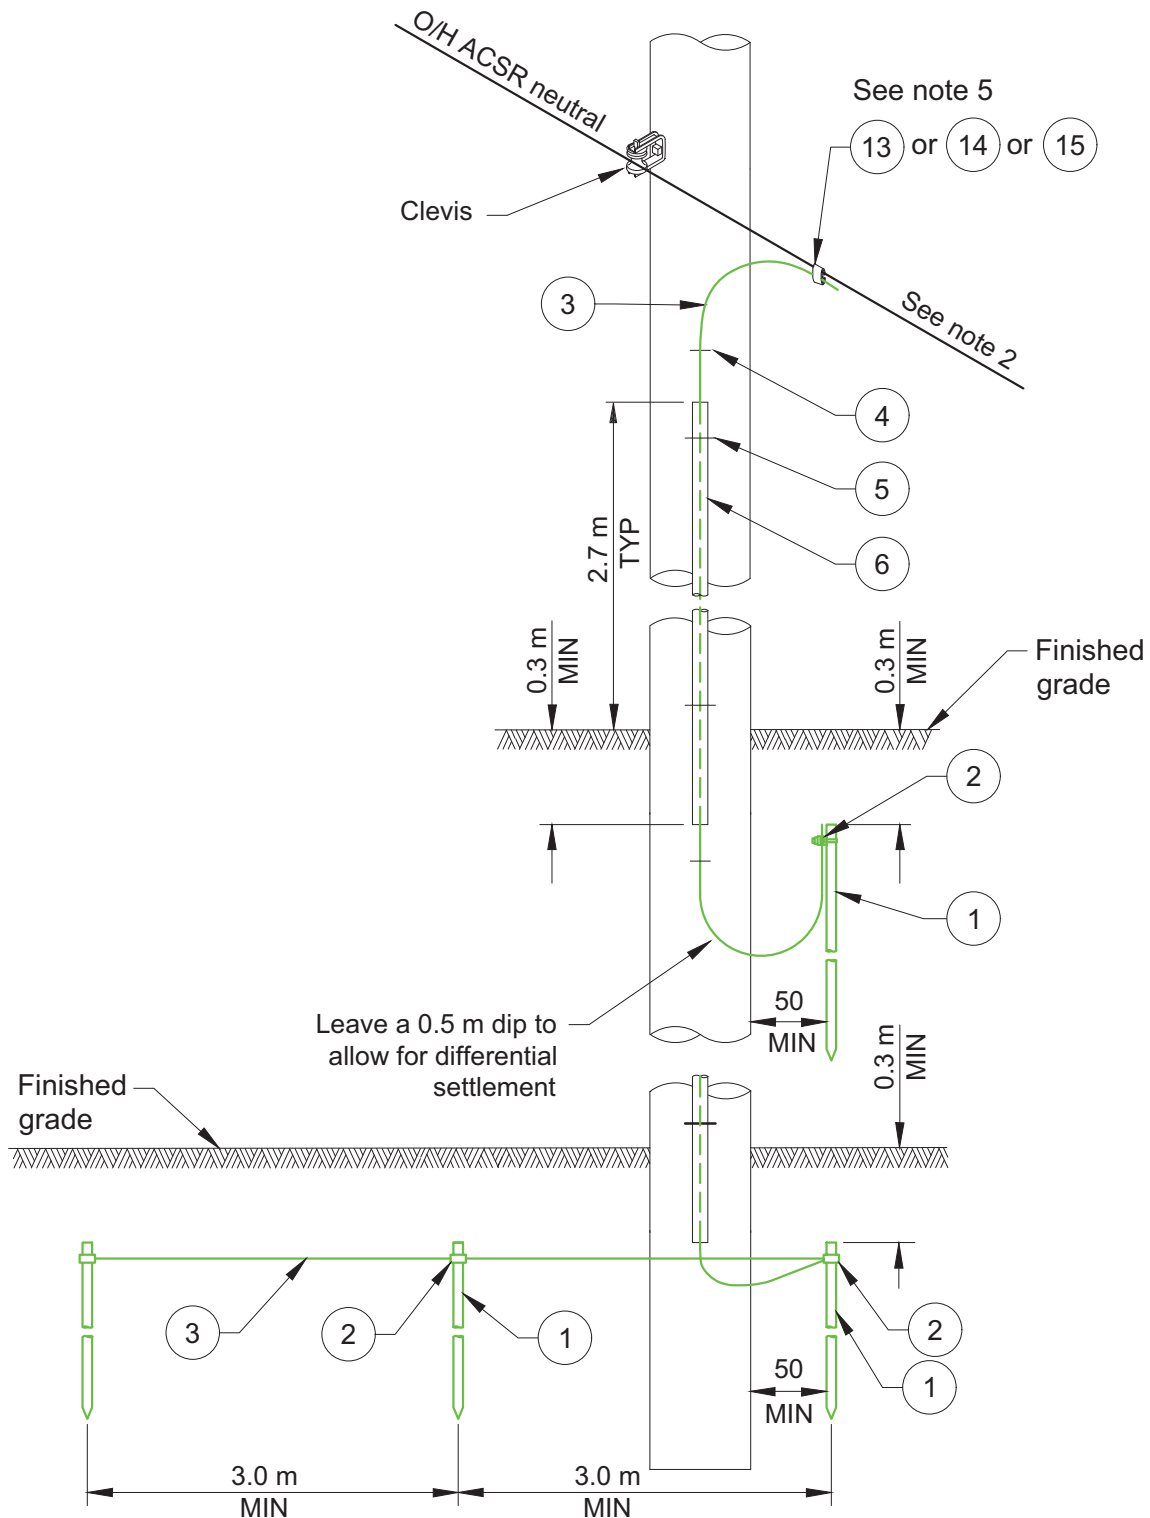

Figure 1 – Most common connection to ACSR neutral
1. See ES43 R2-08 for the list of items shown in Figure 1.
2. Figure 1 shows the most common connection to ACSR neutral. Connect the galvanized steel wire above the neutral for copper neutral.
5. Use item 13, 14, or 15 for connection to overhead neutral as appropriate.